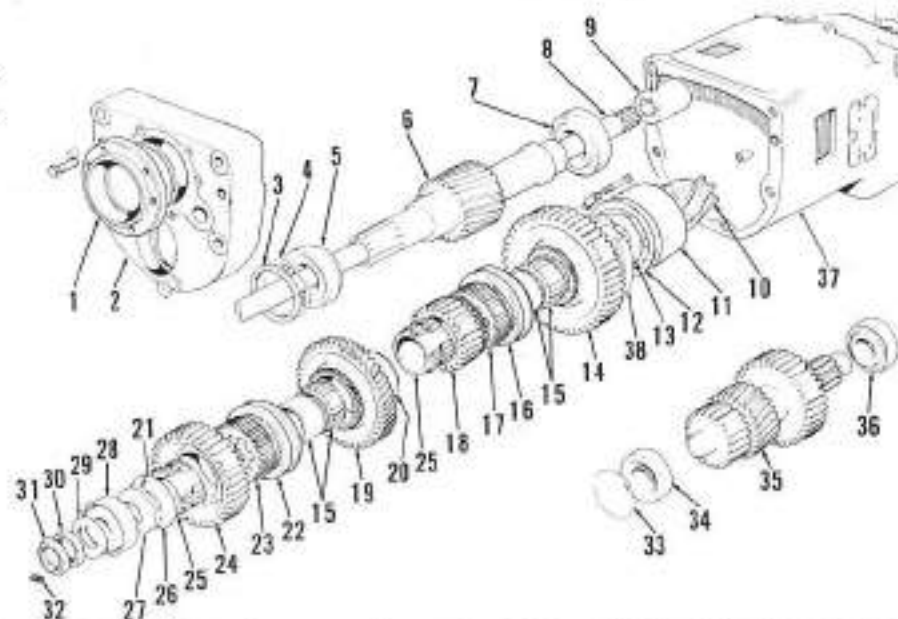

Fig. 115—Exploded view of range gear box used on 1212 and 1412 models. Center housing (2) and plate (1) are also shown in Fig. 116.
Fig. 118—Exploded view of shift controls for Hydra Shift models. Valve (7) is shown as (4) in Fig. 120 and forks (22 & 23) move sliding dog clutches (16 & 22—Fig. 115).